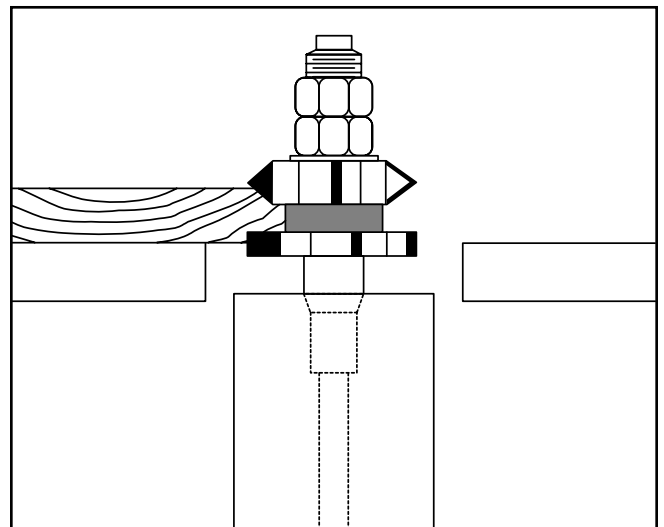

Figure 23. Using rub collar between cutters.
3. **Between two cutters:** Using a rub collar between two cutters has the distinct advantage of performing two cuts at once or eliminating the need to change cutters for two different operations. **Figure 23**. Notice that part of the edge is left uncut. The uncut portion rides on the rub collar.